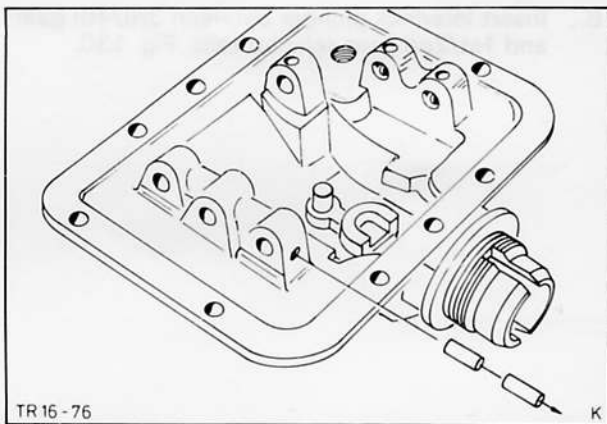

Fig. 127. Remove selector rail plungers (turn selector housing on its side)
4. Take out selector rail interlock plungers by turning selector housing on its side, Fig. 127.